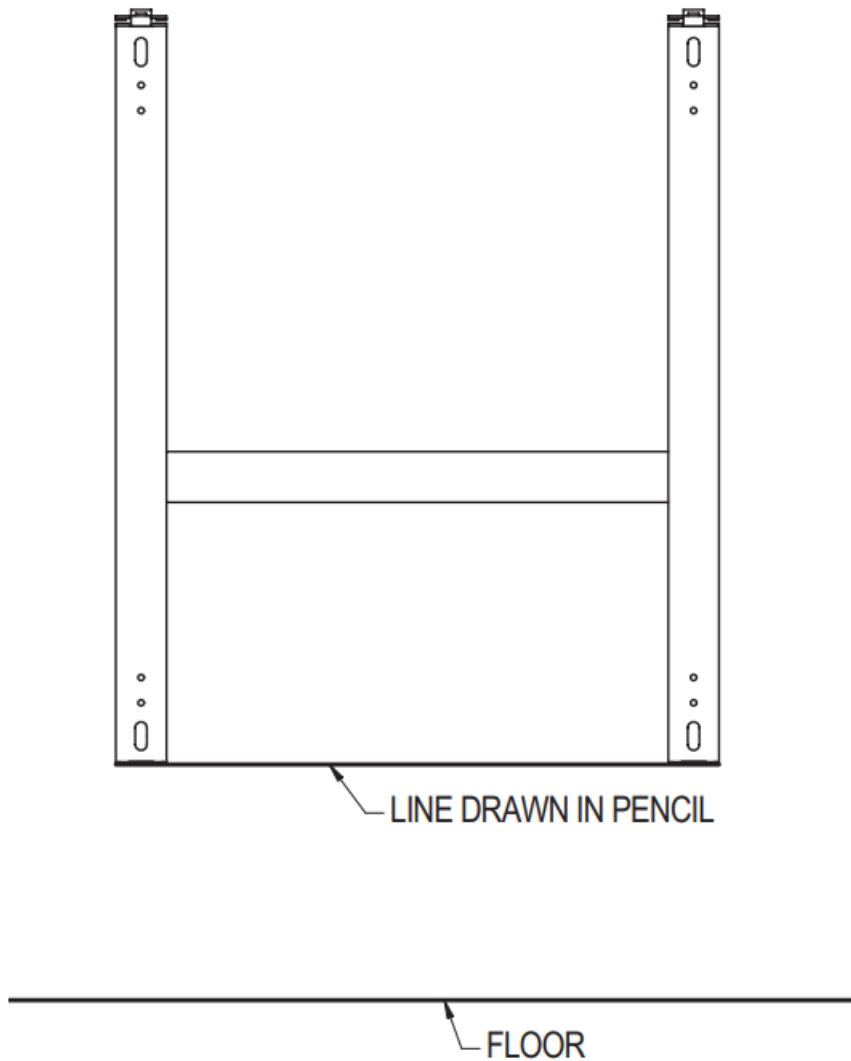

FIG. 2
3. Align bottom of wall bracket with the temporary line drawn in the previous step. (**FIG. 2**)